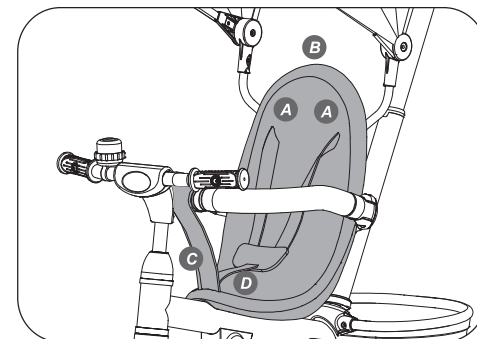

Fig. 12
14. Insert the upper straps of the 3-Point Safety Harness through the upper openings of the Trim Cover **A**. Then hook the top of the Trim Cover over the top of the Plastic Seat Base **B** (See Fig. 12).
15. The Trim Cover Front Flap **C** connects to the Handrail. The Trim Cover Front Flap has two buttons that can be unsnapped to wrap around the Handrail and then resnapped once attached (See Fig. 12).
16. Insert the lower strap **D** of the 3-Point Harness through the lower opening of the Trim Cover (See Fig. 12).